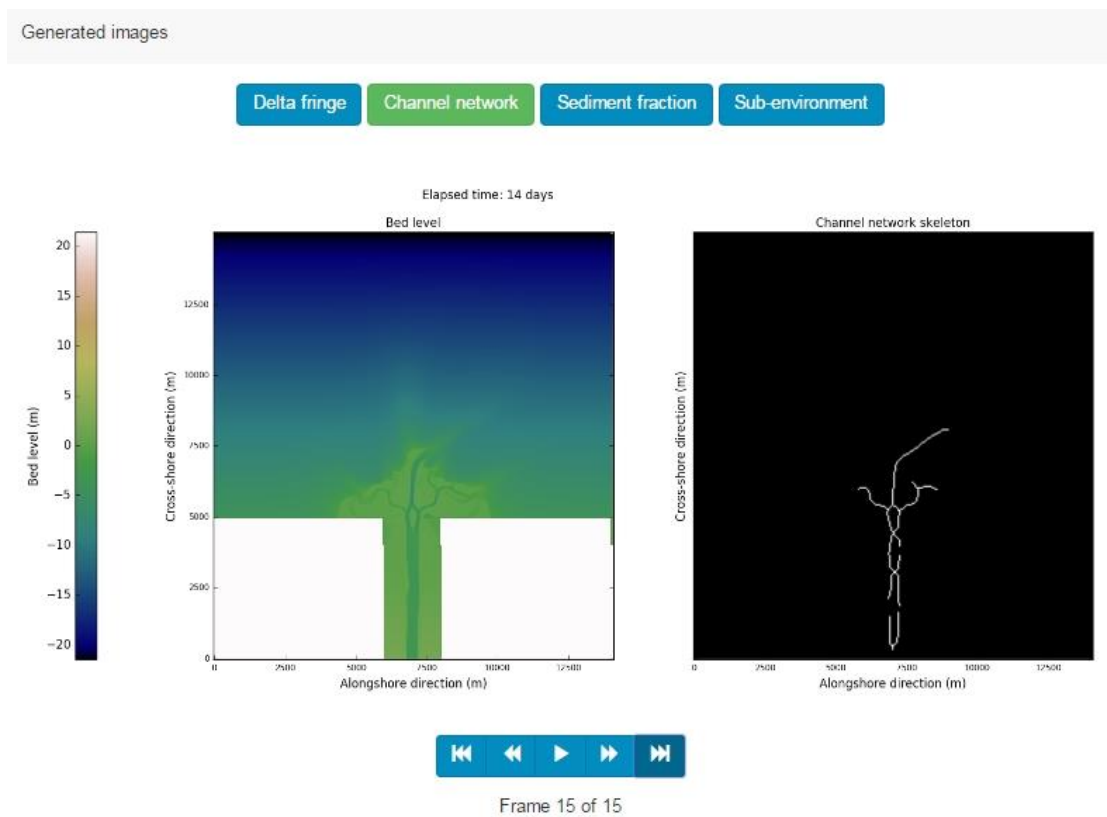

Figure 3.28 Example of channel networking output
2. Map view of the channel network in time (Figure 3.28)